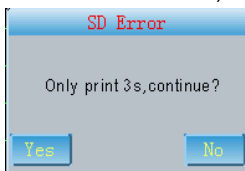

Fig. 7-32
(4) if there is no enough memory in SD card to store this case, the prompt as Fig.7-32 will appear.